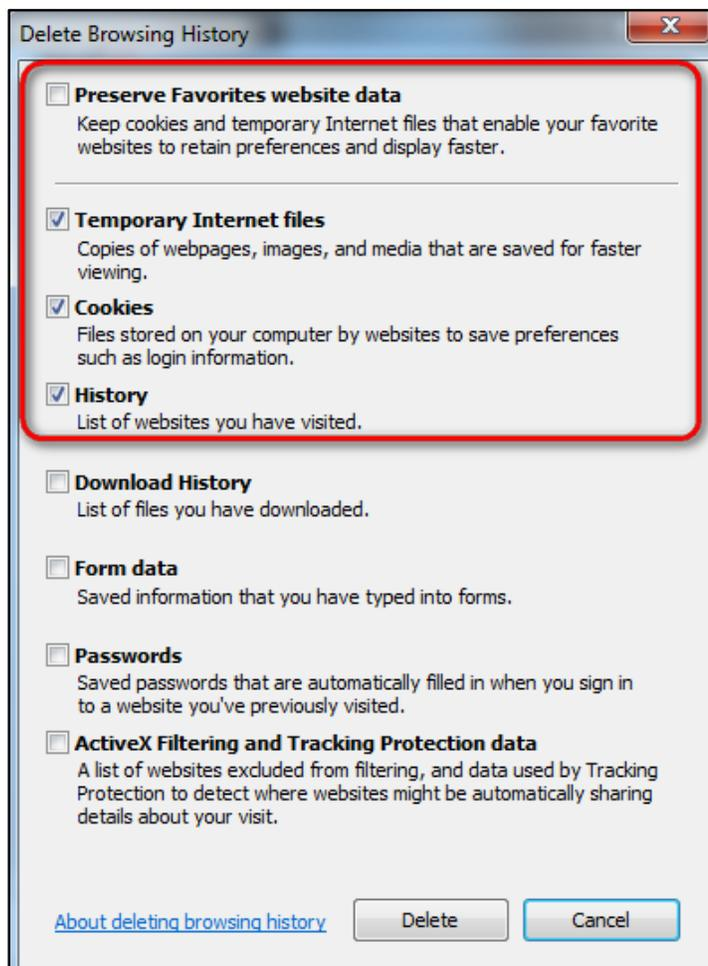

Figure 1: Delete Browsing History
- Select the **Temporary Internet files**, **Cookies**, and **History** check boxes. See Figure 1.